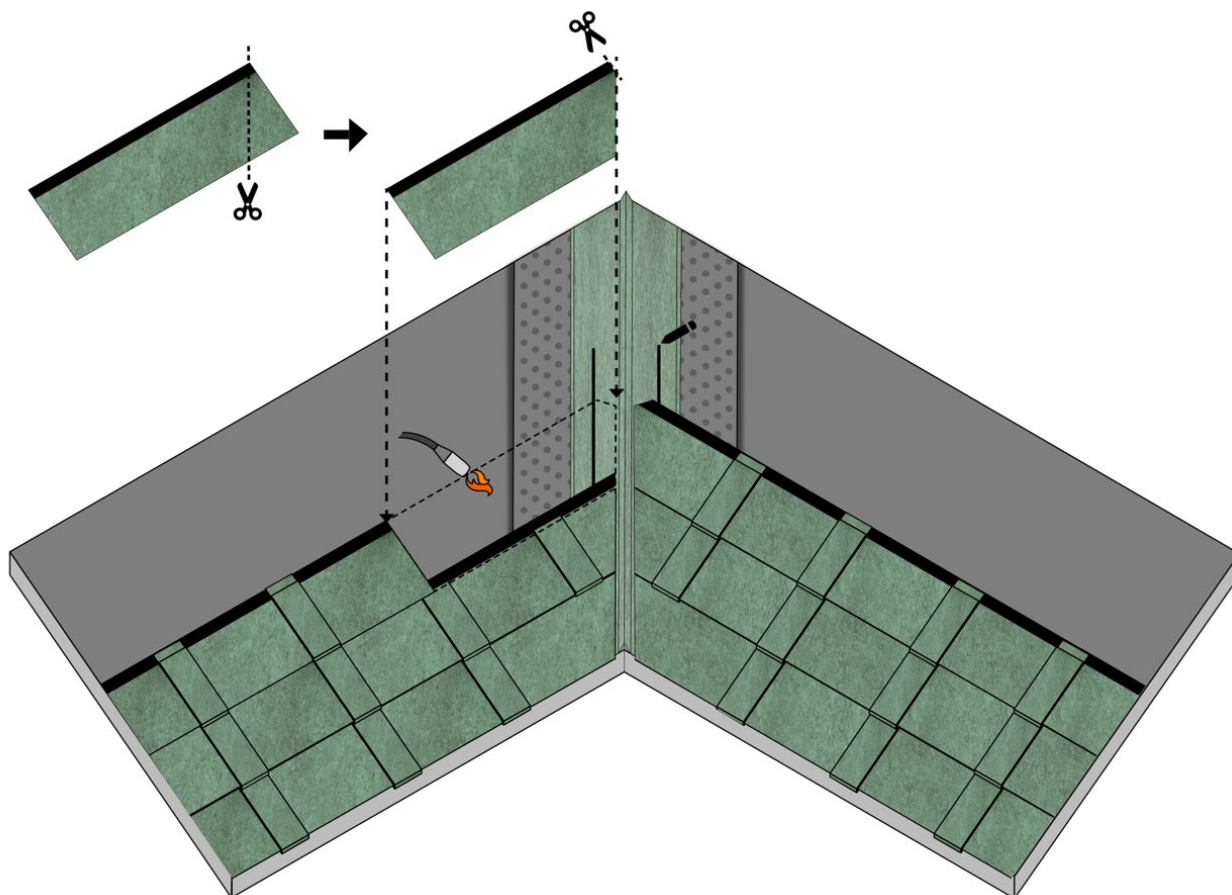

Fig. 25 - Shingles installation by torch along the valley
- Install the shingles on the first pitch, up to the valley line, cutting them at 3 cm and parallel to the valley line. Secure the shingles with the torch, and with Bitustick, applied in two parallel rows, above the metal valley flashing – Fig. 25.
- Repeat the same procedure for the second pitch. In the end, a channel should be created between the shingles, along the metal valley, where the water will flow preferentially, Fig. 25.
- Cross-cut the top edge of the shingle to the valley, so as to convey the descending water along the axis of the valley Fig. 25.